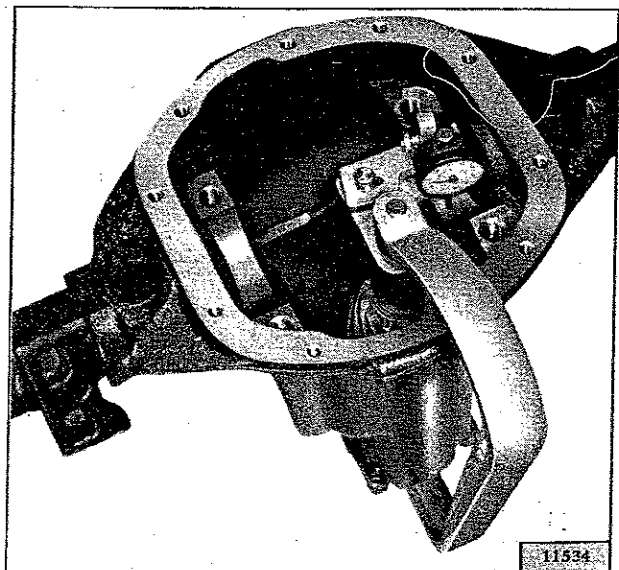

FIG. N-24—CHECKING PINION ADJUSTMENT
Note: Use the "C" type alignment fixture vertically as shown in Fig. N-24, so that weight of jig assembly is always directly centered and supported on pinion shaft center. The function of the fixture is to accurately hold the dial indicator and its mount in alignment to the pinion shaft while it is pivoted on the stationary guide pin. If a consistent repeat dial reading cannot be obtained, look for dirty or burred pinion centers or a bent or twisted aligning jig. Keep jig flat in metal case when not in use. Do not allow other tools to rest on it. Treat the C-type fixture tool carefully as a precision instrument.
- i. Seat the gauge mount firmly on the pinion head and swing the dial indicator through the differential bearing bore as shown in Fig. N-24.